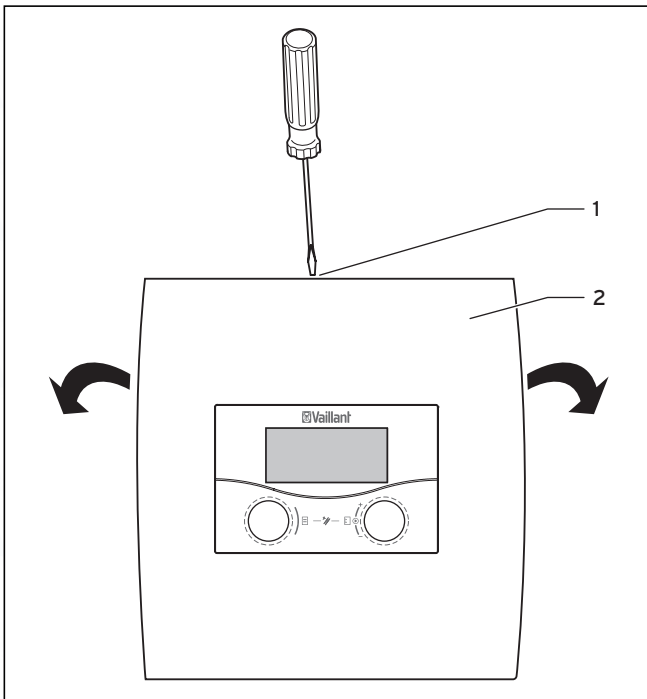

Fig. 10.2 Opening the wall mount
- Loosen the screw (1) on the upper side of the wall mount.
- Flap the housing cover (2) downwards. Take the housing cover off its hinge and remove it.
- Pull the controller (1) from the wall mount (2). Insert a screwdriver into the two retainer straps to do this (→ Fig. 10.2).